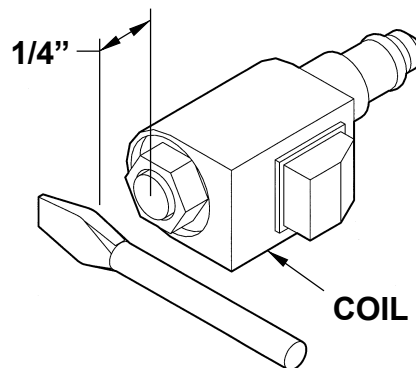

FIG. 1
1. Check Solenoid Valves for electrical shorts by holding a screwdriver approximately 1/4" from the top nut of the Solenoid. **(See FIG. 1).** The solenoid should not draw the screwdriver to the nut with a magnetic force, unless the toggle switch is actuated. The Coil can be replaced by removing the Nut and Wires.